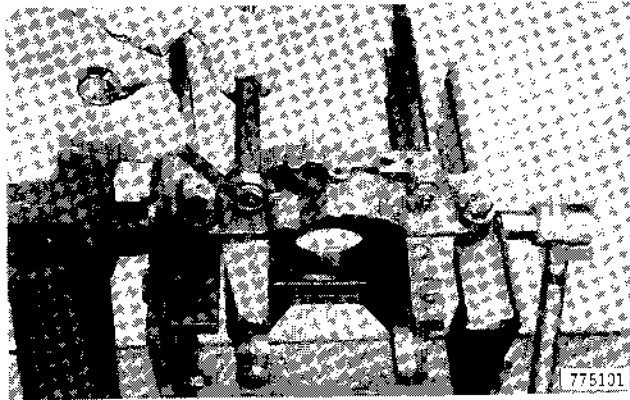

Figure 105
47. Remove the self-locking nuts from the tie bolts, Figure 105.